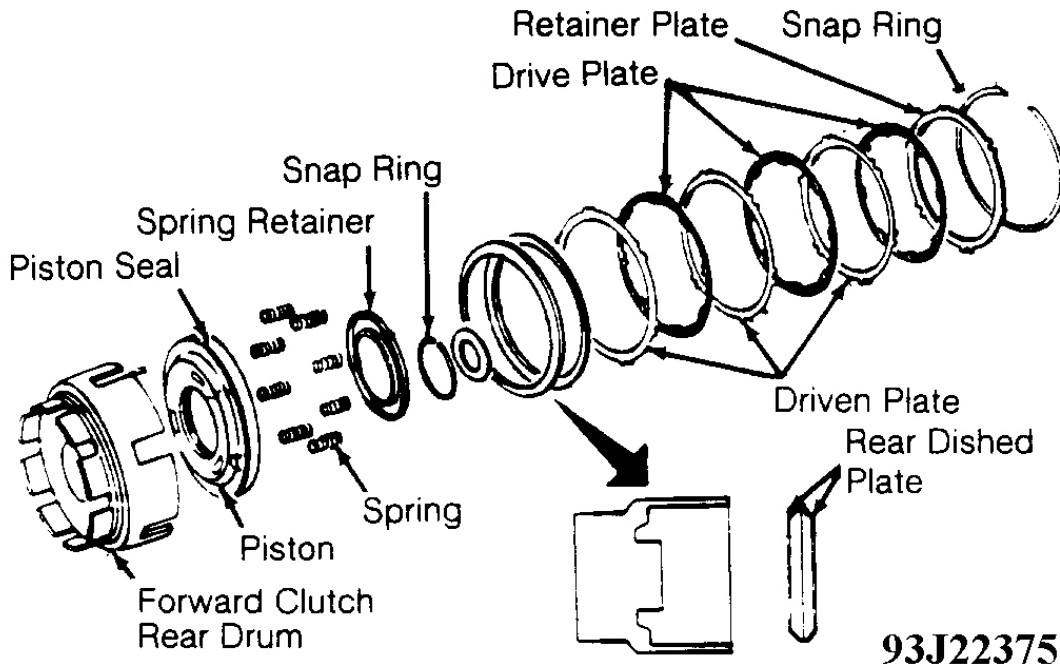

Fig. 14: Exploded View Of Forward Clutch Assembly
1. Using screwdriver, remove large snap ring and retainer plate. See **Fig. 14** . Remove clutch plate assembly, noting number and arrangement of drive and driven plates.